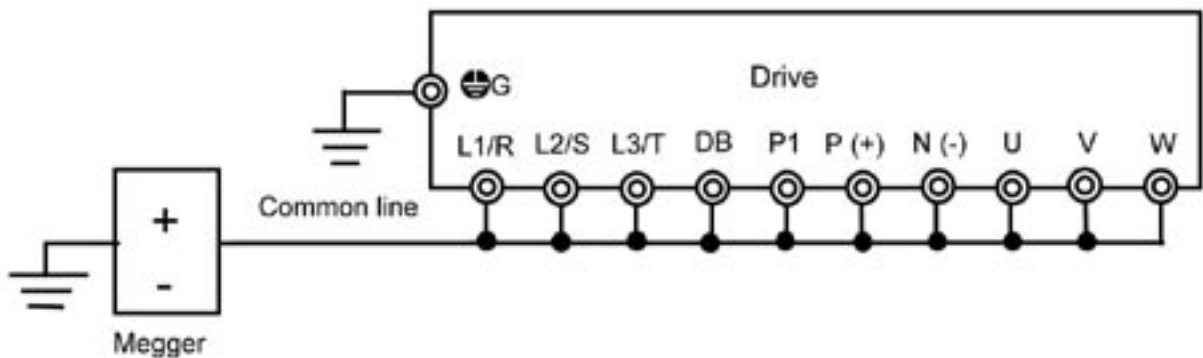

Figure 7.2 Megger Test
- 3) Connect the main circuit terminals using a common cable as shown in Figure 7.2.
- 4) The Megger test must be limited to across the common line of the main circuit and the ground terminal (G).